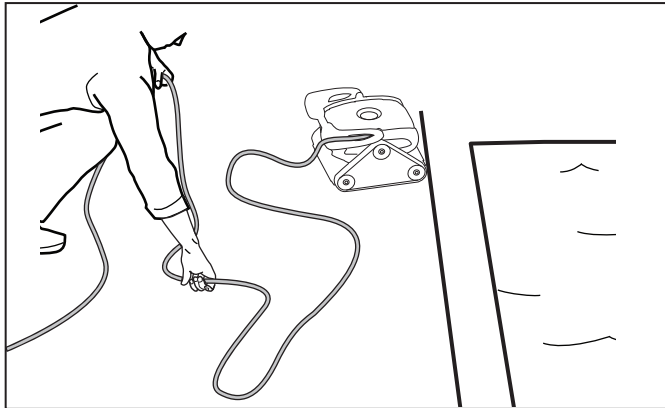

Figure 20. Untangle the Floating cable
1. Starting at the cleaner head. Remove all coils and tangles from the cable (see Figure 20).